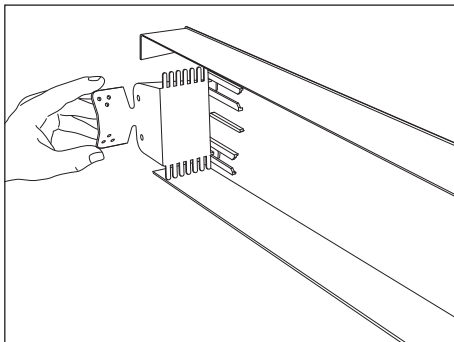

Fig. 2 – Locate starter insert in dry verge unit
- 5 Slide starter insert into internal fixing channels of dry verge unit, and position assembly for fixing over the eaves verge tile. The verge unit should be sitting tightly against the top of the verge tile while the starter insert rests against the end and face of the fascia board (Fig. 2).